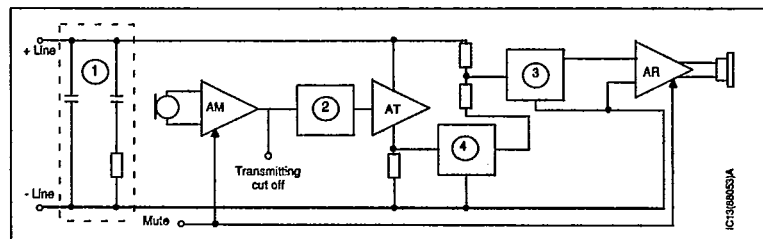

Figure 6. Block interconnections.
In fig. 6 ①②③ and ④ are RC-links with the following functions: